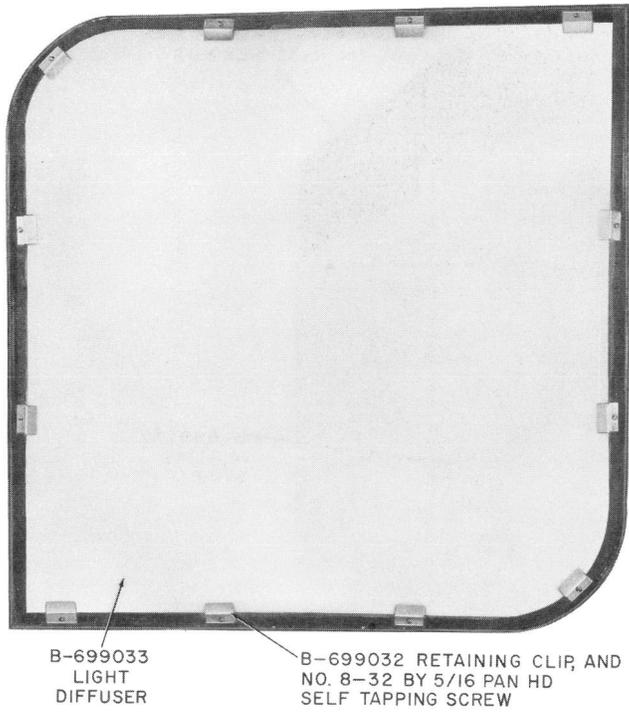

Fig. 4—Capitol Kiosk Booth—Top
**2.06** The top dome is a plexiglass light diffuser which is bonded to the roof assembly with an adhesive sealant and secured with 12 B-699032 retaining clips and 12 No. 8-32 by 5/16 pan head self-tapping screws. (Fig. 4)
**4.08** Remove top light diffuser by removing 12 No. 8—32 by 5/16 pan head self-tapping screws and 12 B-699032 retaining clips (Fig. 4).